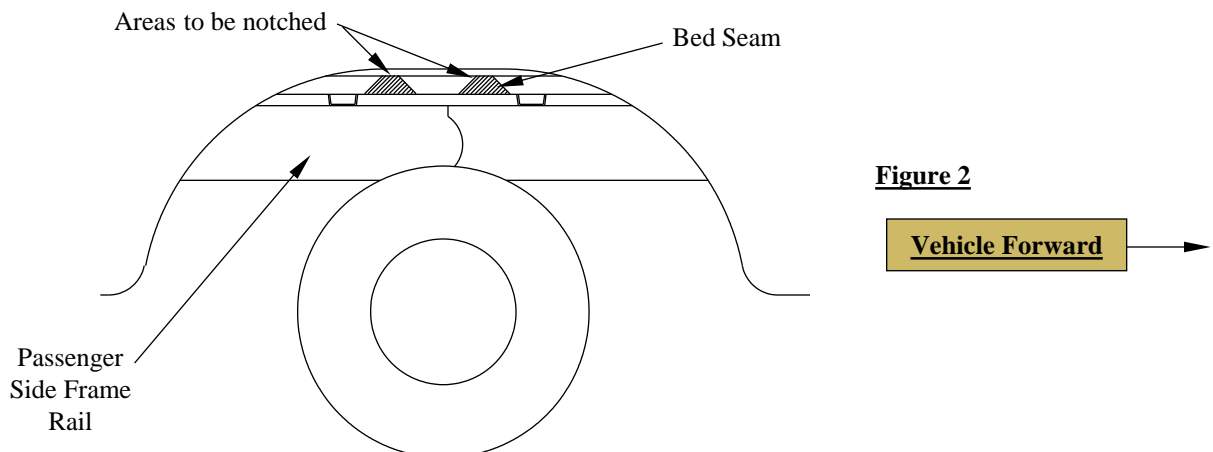

Figure 2
4. **Positioning the cross members by notching the bed seam:** Using a saber saw, cut a notch in the bed seam on the passenger's side of the vehicle, between the vehicle frame and the bed as shown in Figure 2. Slide the forward cross member through the notch and above both frame rails. Slide the rearward cross member through the notch cut in the bed seam and above both frame rails.